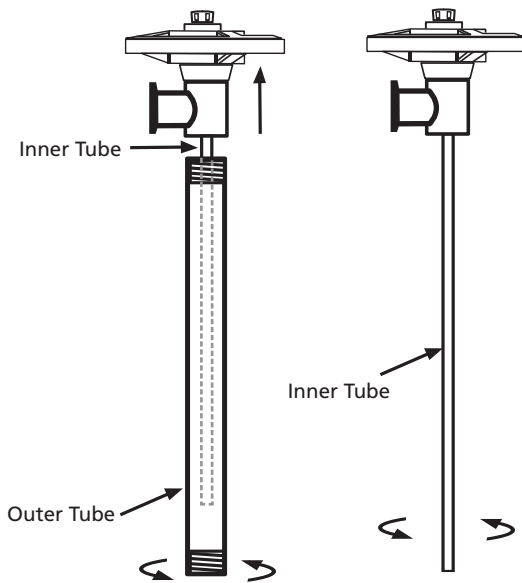

Figure 6
6. For plastic models remove outer tube and inner tube from discharge housing by turning clockwise (see Figure 6).